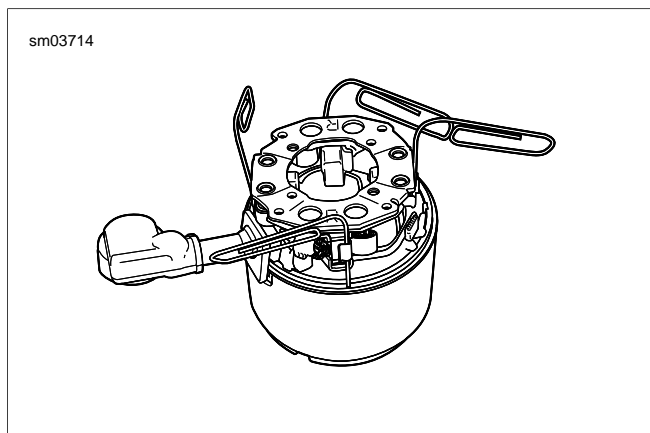

Figure 7-20. Install Paper Clips to Hold Brush Springs
- Retract all four brushes for armature installation. For good results, obtain four paper clips. Bend free end of each paper clip outward approximately 90°. Then, pushing on inboard side of brush, insert straight end of paper clip between outboard side of brush and inboard side of brush spring. Properly installed, the paper clip contacts the framework of the brush holder to keep spring pressure off the brush. Repeat step on remaining three brushes as shown in Figure 7-20.